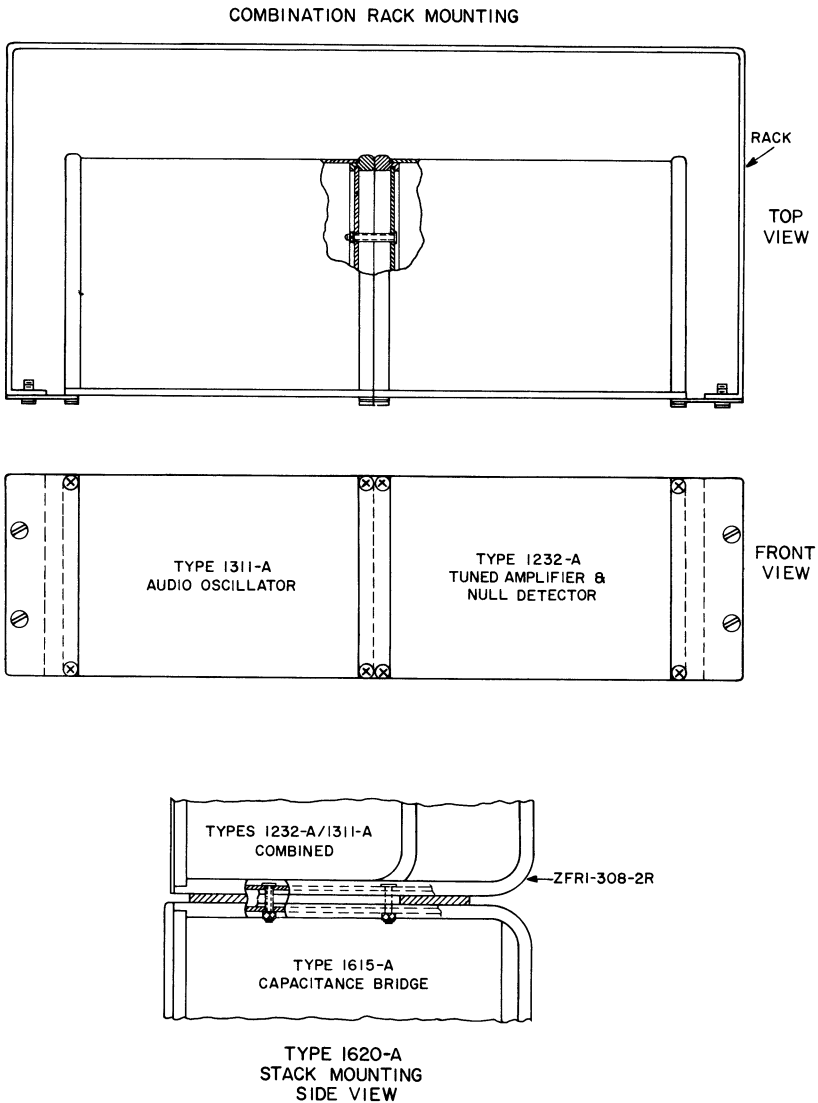

Figure 2-1. Mounting options.
**2.2.2 COMBINATION.** To combine the Type 1311-A in a standard relay-rack mounting configuration with the Type 1232-A Tuned Amplifier and Null Detector, the Type 480-P316 Adaptor Plate Set should be used. This set consists of a pair of adaptor plates which attach to the outside edges of the front panels of the instruments and an adaptor strip which joins the instruments (see Figure 2-1). The  $\frac{1}{2}$ -inch mounting screws in the corners of the instrument are used to attach the adaptors. The end frames should be left in place, but the rubber mounting feet may be removed.
**2.2.3 TYPE 1620-A PRECISION CAPACITANCE MEASURING ASSEMBLY.** The Type 1311-A is an integral part of the Type 1620-A Precision Capacitance Measuring Assembly (see Figure 2-1). As such, it is mounted in combination with the Type 1232-A Tuned Amplifier and Null Detector, as described in paragraph 2.2.2. To the combined assembly is added a pair of large-sized end frames (part No. ZFRI-308-2R). The complete assembly is then stack-mounted on top of a Type 1615-AM Capacitance Bridge and the large end frames fastened together by machine screws.